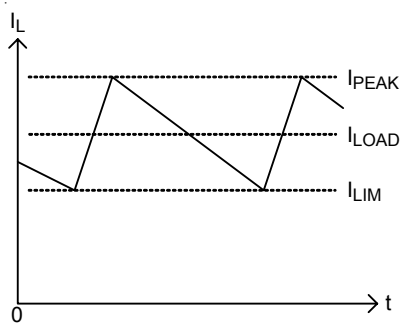

Figure 2. Valley Current-Limit
The RT8238A has cycle-by-cycle current limiting control. The current limit circuit employs a unique “valley” current sensing algorithm. If PHASE voltage plus the current-limit threshold is below zero, the PWM is not allowed to initiate a new cycle (Figure 2). In order to provide both good accuracy and a cost effective solution, the RT8238A supports temperature compensated MOSFET RDS(ON) sensing. The CS pin should be connected to GND through the trip voltage setting resistor, RCS. With the 10µA CS terminal source current, ICS, and the setting resistor, RCS the CS trip voltage, VCS, can be calculated as shown in the following equation.